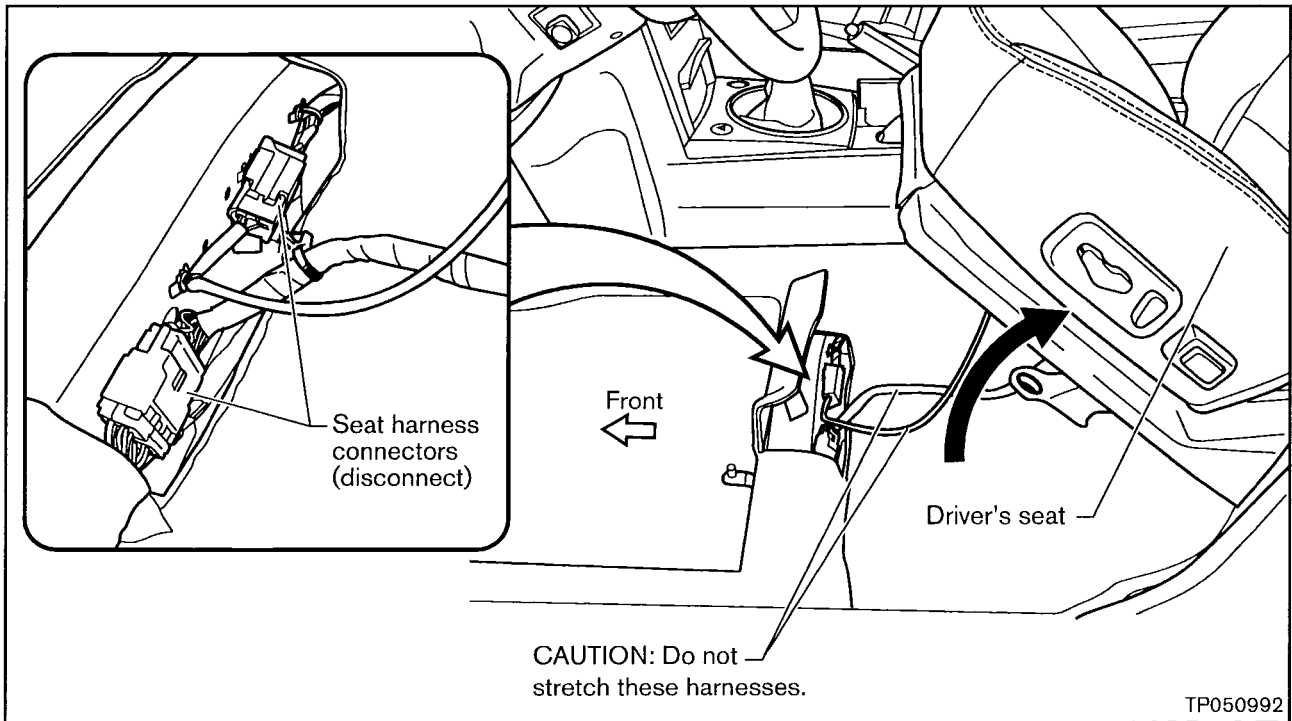

Figure 5
- j. Tilt the seat REARWARD and disconnect the seat harness connectors (see Figure 5).